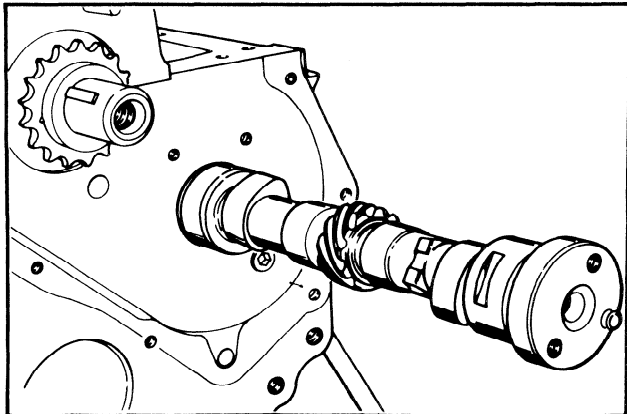

FIG. 38 Camshaft Removal
14. With the engine inverted, remove the camshaft thrust plate and remove the camshaft (Figure 38).